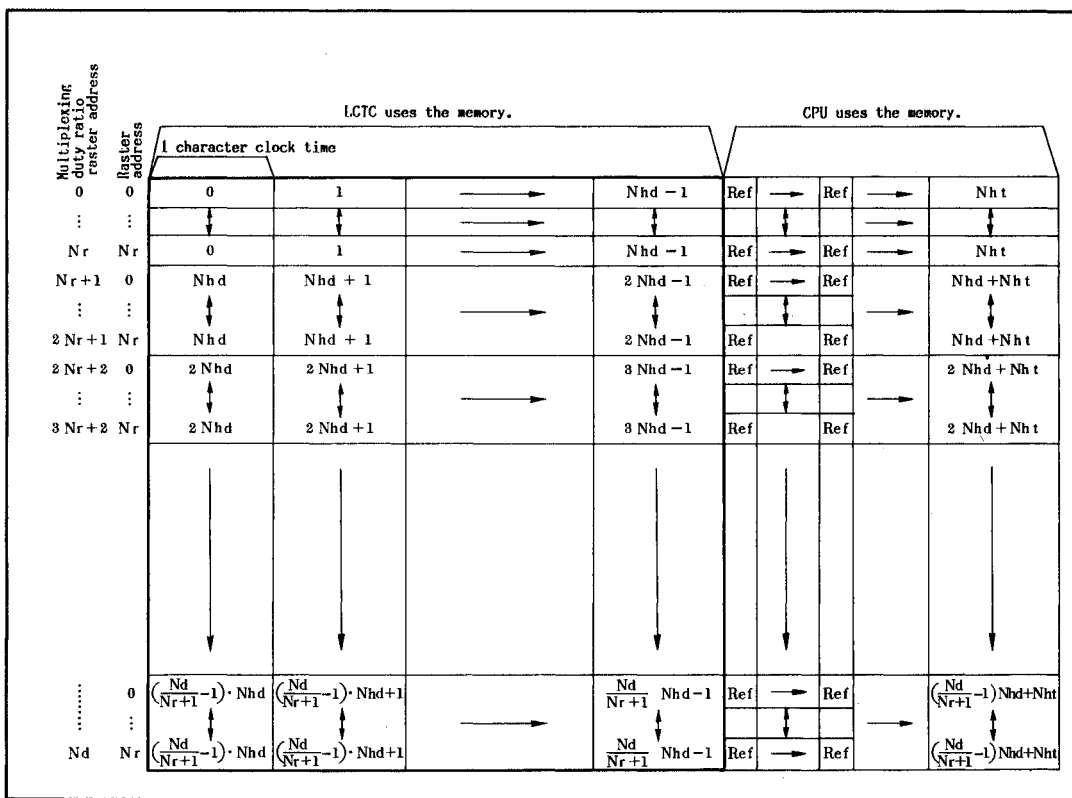

Figure 6-4 Relation between the Number of Displayed Characters and Memory Addresses when $N_{ir} = N_{hd}$
Figure 6-4 shows the relation between the number of displayed characters and the memory addresses when the horizontal displayed characters (N_{hd}) is the same as the horizontal virtual screen width (N_{ir}) and the start address is 0.
Although Figure 6-4 shows a case of the character mode, the address output will be the same as that of the graphic mode when N_r is set 0.
3. Set values in the register corresponding to the screen in Figure 6-4
4. Figure 6-4 shows the screen in mode 5 (single screen, 4-bit data transfer, normal character mode).